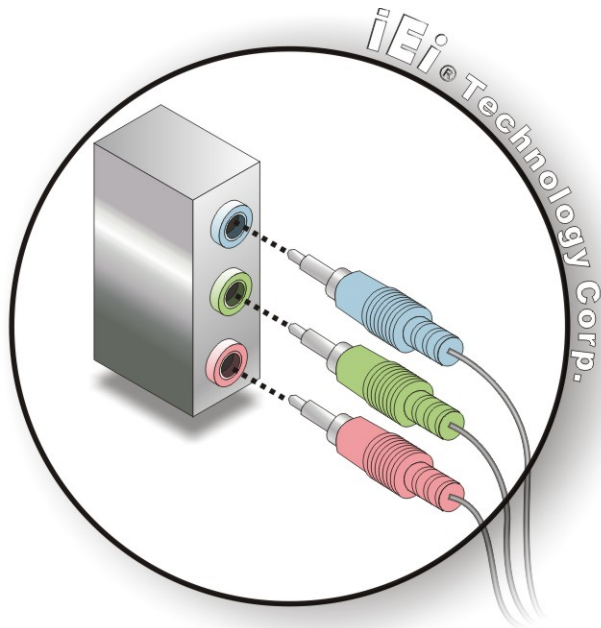

Figure 5-20: Audio Connectors
Step 2: Insert audio phone jack plugs. Insert audio phone jack plugs into the audio phone jacks on the external peripheral interface. See **Figure 5-20**.